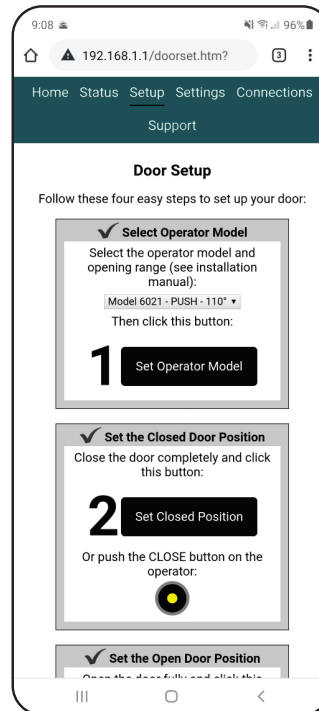

Figure 33
1. Use the drop down menu of Step 1 to select the operator model, hand, and opening range that matches the operator installation. (Figure 33)
1. Manually close the door and select “Set Closed Position” in Step 2. (Figure 33)